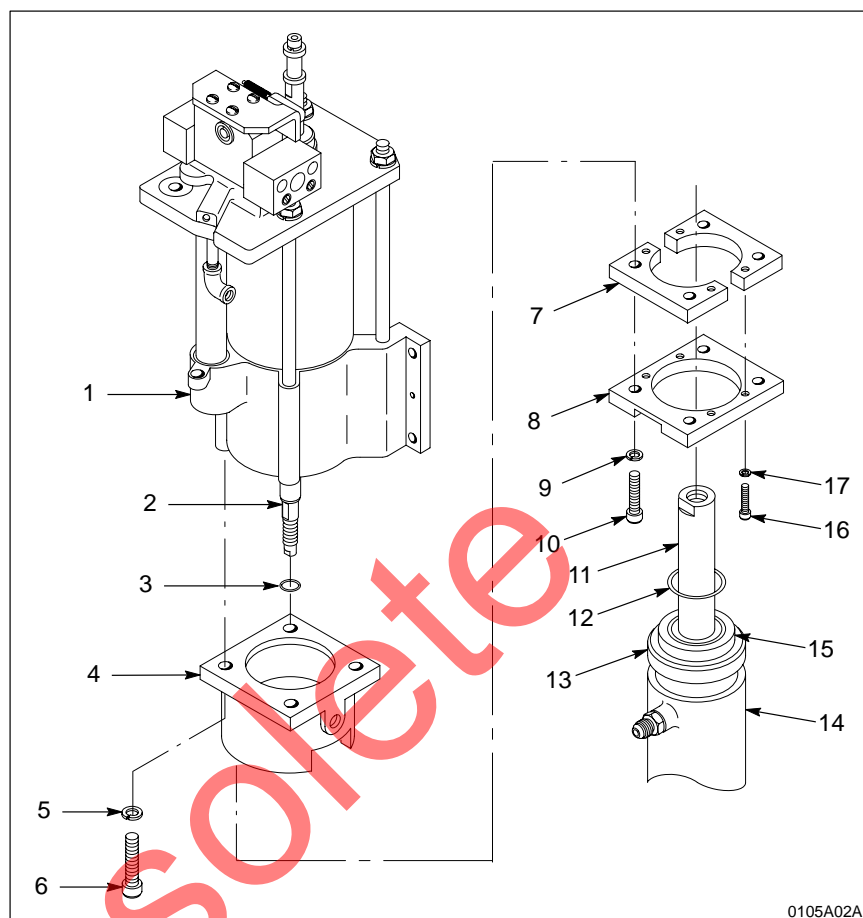

Fig. 2 Installing the retainer kit
9. See Figure 2. Clean the retainer groove (14), top of the hydraulic housing (13), and upper packing gland (15) with a solvent or cleaning solution compatible with the material you are pumping.
10. Check the O-ring (12) in the top of the packing gland. Replace the O-ring with the new one included in the kit.
11. Install the collar (8) included in the kit over the top of the housing as shown in Figure 2. The cutout in the surface of the collar must face down, over the hydraulic housing outlet.
12. Install the new retainer halves (7) on top of the collar and into the groove in the housing. Line up the holes in the collar and the retainer halves.
13. Install the solvent chamber (4) on top of the retainer halves. Install the four new $\frac{1}{4}$ -in. socket head screws and lock washers (16, 17) through the collar and into the retainer halves. Do not tighten the screws.
16. Check the O-ring (3) on the connecting rod. Replace the O-ring with the new one included in the kit. Apply thread adhesive to a couple of the top threads on the connecting rod.
17. Support the hydraulic section under the air motor, and screw the connecting rod (2) into the plunger.
18. Push the hydraulic section up until you can secure the solvent chamber to the lower cylinder head (1) with the four screws and lock washers (6, 5).
See Figure 2.